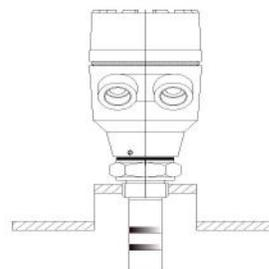

Figure 3: Dimensional Layout - Top Mounting
- The Coat-Endure probe can be installed in the vessel in both horizontal (side mounting) and vertical (top mounting) positions. Please refer to Figures 3 and 4.